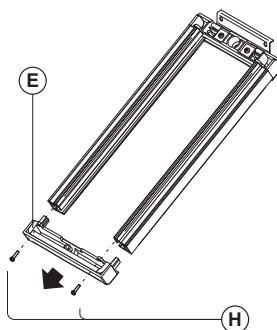

Fig. 5
5. Remove the fixing screws **(H)** (Fig. 5) and remove the plastic cover **(E)** (Fig. 5) of the module support;